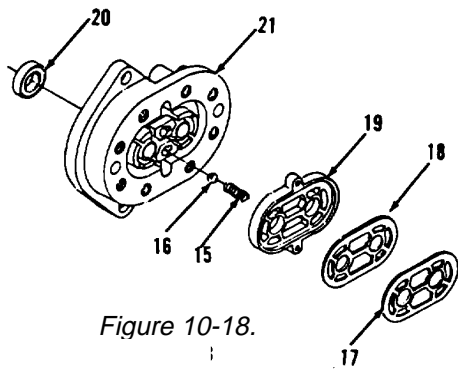
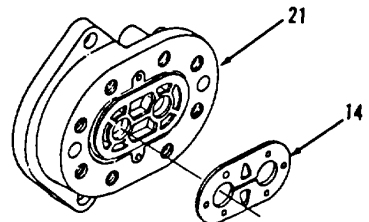

Figure 10-18.
Figure 10-17.
- 78. Install new seal (20) on front plate (21, Figure 10-18).
- 79. Install new seal (19) and new gaskets (18 and 17).
- 80. Install two balls (16) and springs (15).
- 81. Install new diaphragm (14) on front plate (21, Figure 10-17).